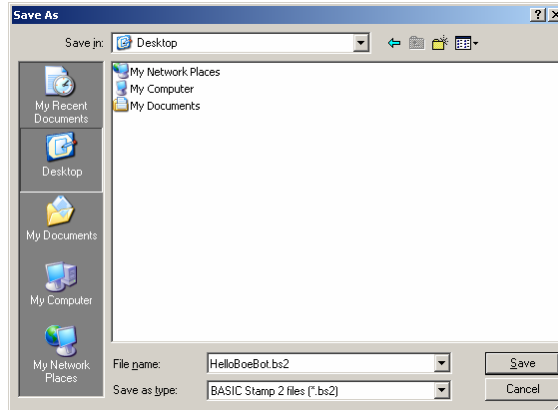

Figure 1-37
- ✓ Enter the name HelloBoeBot.bs2 into the File name field near the bottom of the Save As window as shown in Figure 1-37.